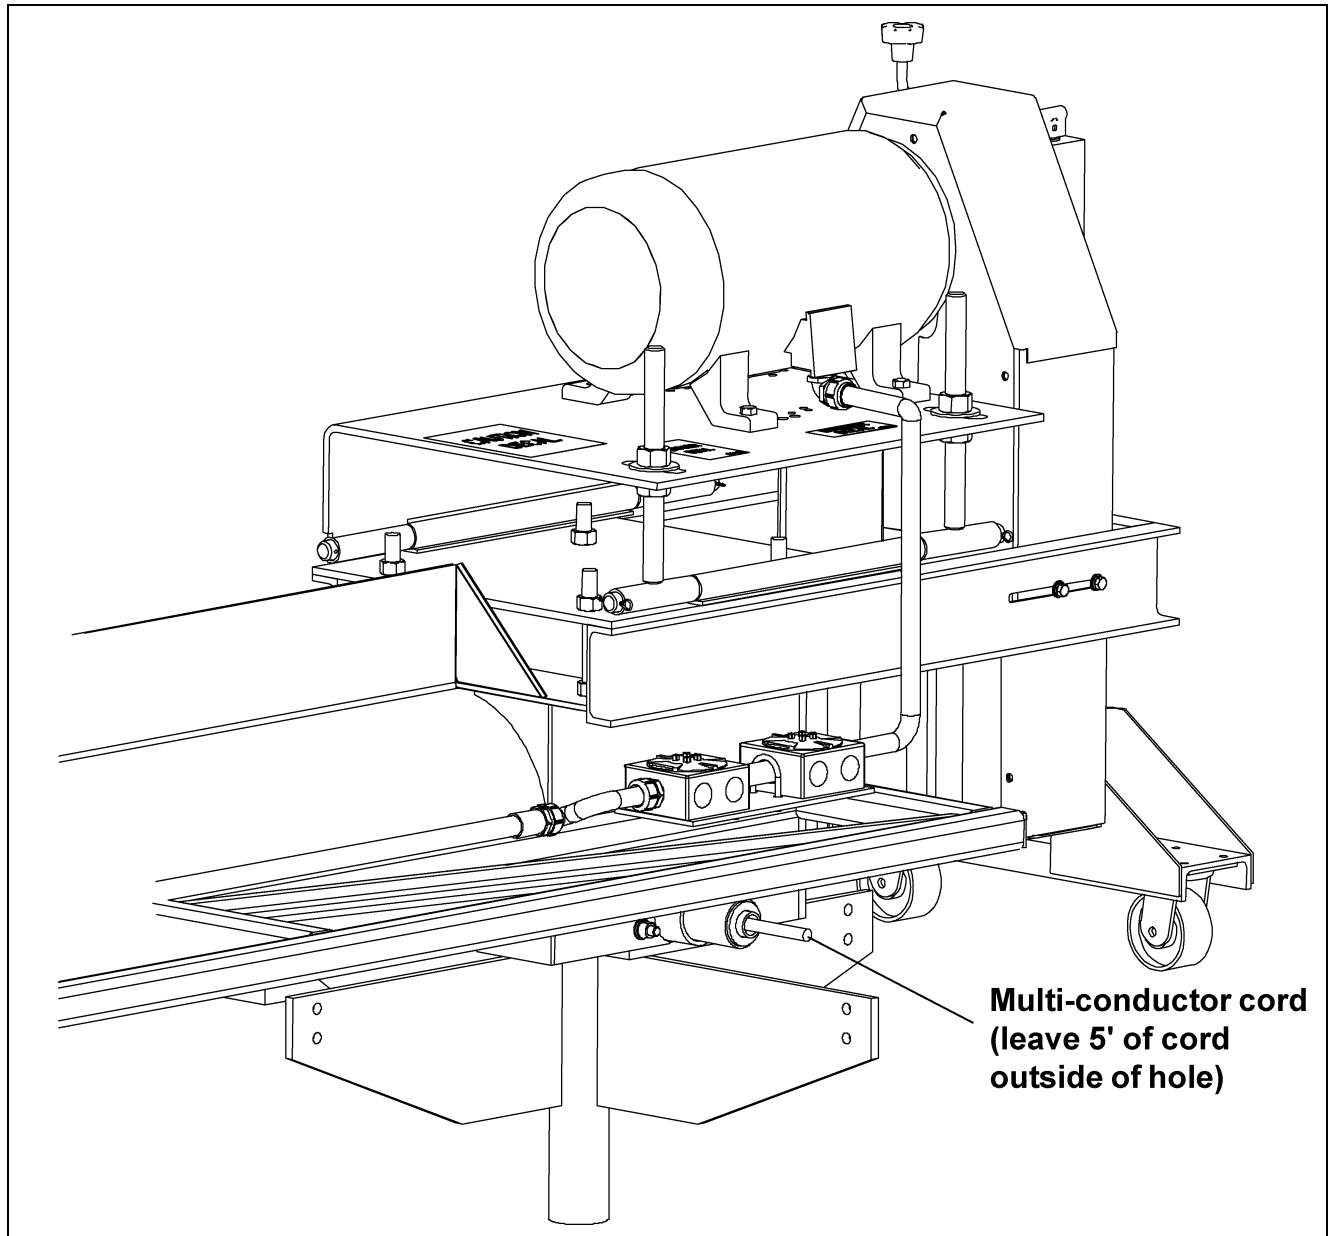

Figure 5AH
3. Feed the power cord through the pivot tube. (See Figure 5AI.)